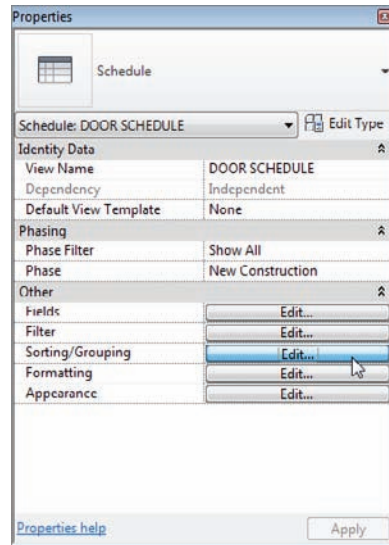

FIGURE 11.6 Click the Edit button in the Sorting/Grouping row.
2. In the Properties dialog is a category called Other. Here you can return to the Schedule Properties dialog. Click the Edit button in the Sorting/Grouping row, as shown in Figure 11.6.